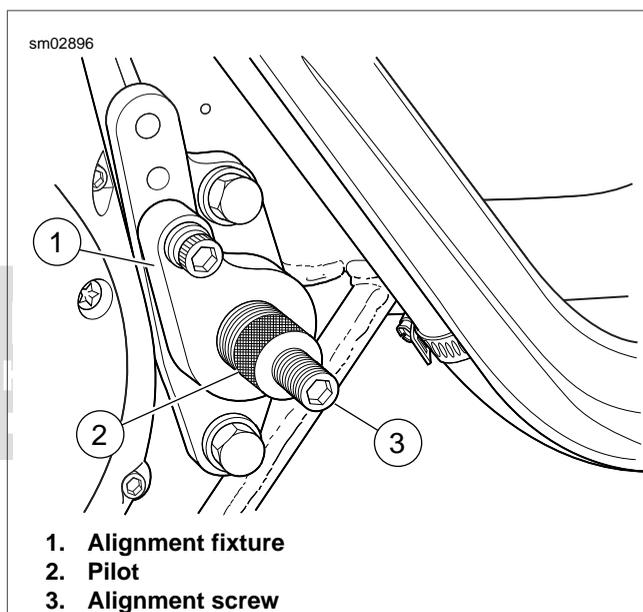

Figure 2-37. Install Vehicle Alignment Tool (Left Side)
- f. Tighten alignment screw to 60-80 in-lbs (6.8-9.0 Nm). Repeat step on other side of motorcycle. See Figure 2-37.